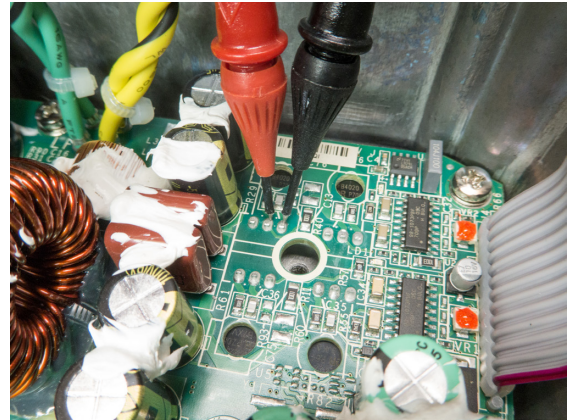

Figure 8.5.1 - Measuring amplifier MOSFETs from top
- MOSFETs Q2 / Q3 (LF) or Q7 / Q8 (HF) are shorted between any two pins of gate, source, or drain (verifiable from the top side of PCB as seen in Figure 8.5.1)